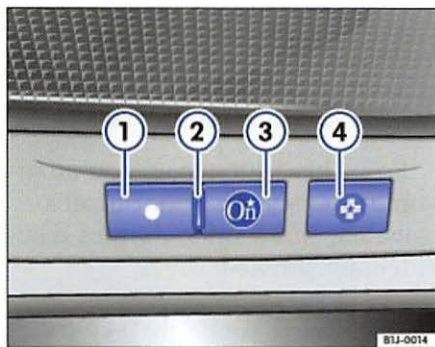

Fig. 6 System status light
The system status light ⇒ fig. 6 ② is located between the DOT button and the Emergency button. It will take 10 to 15 seconds for this light to come on after you have switched on the ignition.